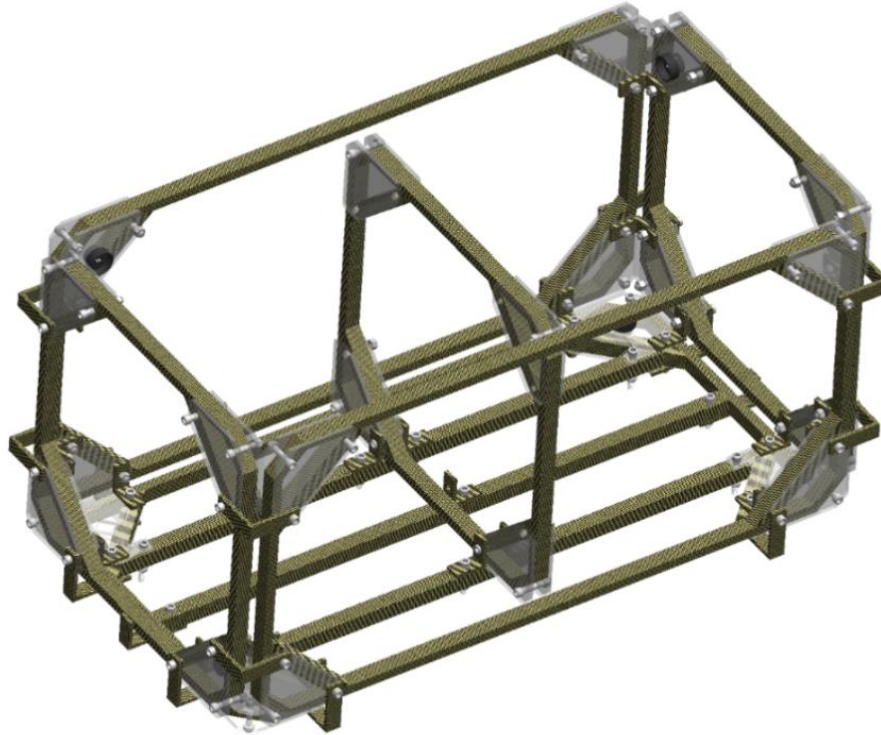

Figure 1.12
13. Once the epoxy is dry match drill through the holes in the Inner Angle Brackets (PN THOA002) through the Angled Cube Support Beams and the Cube Support Beam, and bolt the Inner Angle Brackets to their respective support beams using five 2" 3/8-16 bolts (PN OUTS002), and five 3/8-16 nuts (PN OUTS004) as shown in Figure 1.12